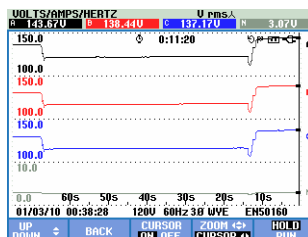

Figure 22-5. Trend display, cursor on
- Operate F2 and F3 to switch the Cursor on (only in Hold mode). Use the left/right arrow keys to move the Cursor horizontally along the trends. The value of the trends at the Cursor is displayed in the screen header as shown in Figure 22.5. Positioning the Cursor across the left or right screen end moves the trend to the left or right.